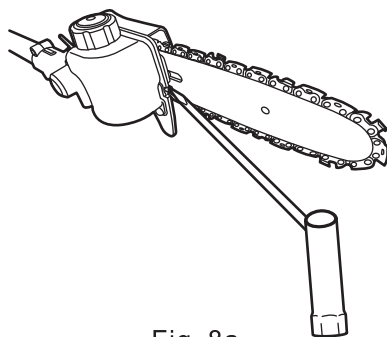

Fig. 8a
- b). Turn the tension screw (D12) clockwise until the chain "tie straps" are just touching the bottom edge of the guide bar (D7). (See Fig. 8a)